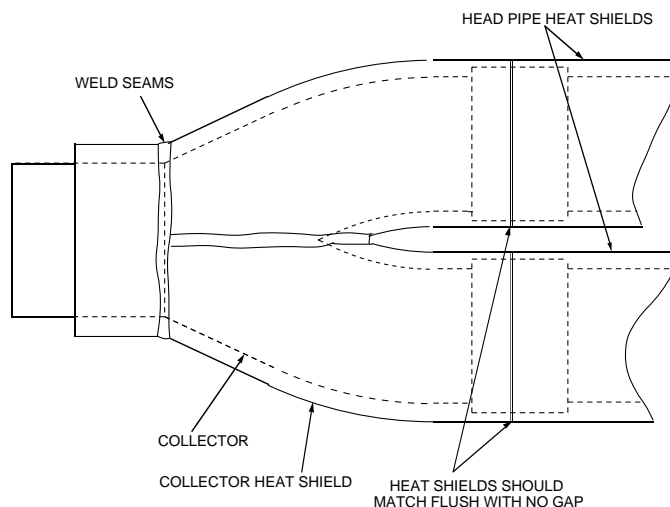

Fig. 1
9. Align the three heat shields so the ends meet each other while also aligning the welds on the collector and the collector heat shield with each other (Refer to Fig 1). Tighten the clamps.